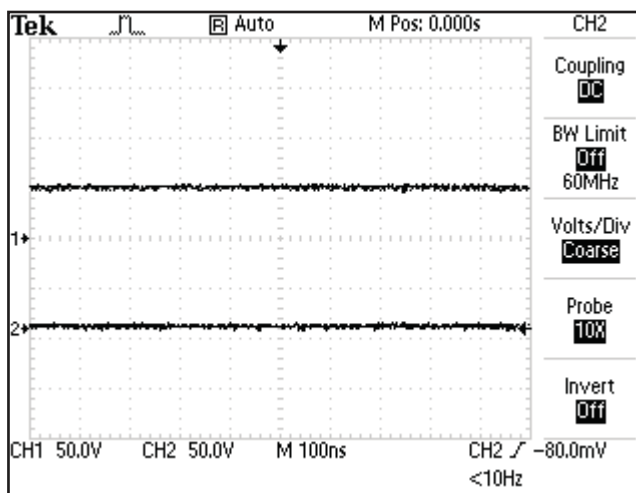

FIGURE 4.11
J. DC (Direct Current)- Figure 4.11 (Vectra Genisys)